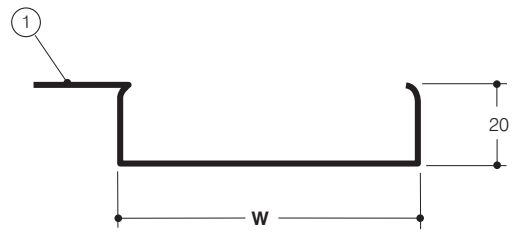

Fig.9 FERMULAM F80H-20 profile
Manufactured from light gauge aluminium or mild steel strip, the FERMULAM H20 square edge profiles (1) [Fig. 9] are fixed as shown to create demountable linear interior ceilings. Four widths (W) of profile are offered to facilitate the range of ceiling modules (Mo) [Fig. 1] seen in Table 1.